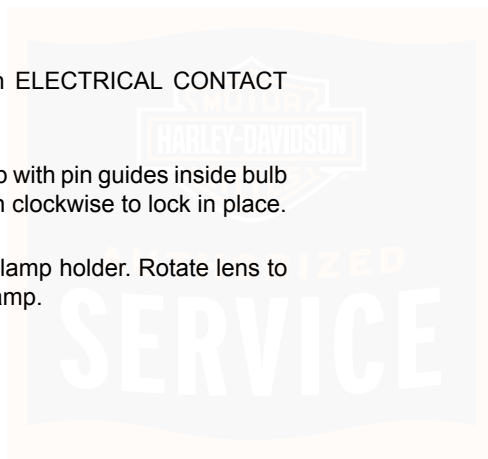

Figure 66. Lens Cap Notch
1. See Figure 66. Insert a coin or the blade of a small screwdriver into the notch at the bottom of the lens cap. Carefully twist until the lens cap pops out of the lamp housing.